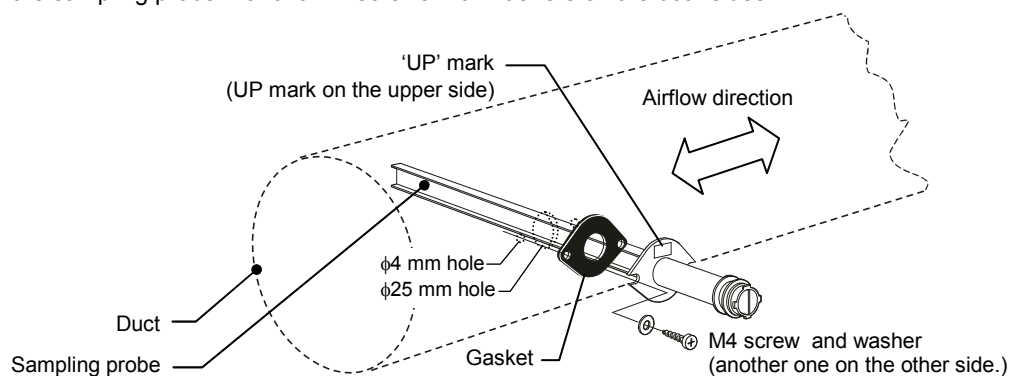

Figure 3. Sampling probe mounting to the duct
- Set the sampling probe so that the air flows perpendicularly to the probe (air sampling part), as shown in Fig. 3.